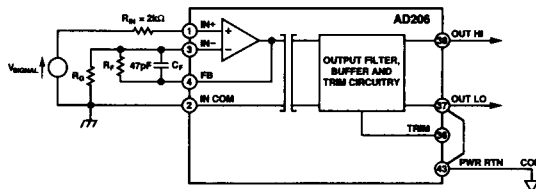

Figure 12. Noninverting Input Configuration for a Gain
**Noninverting Input Configuration for a Gain Greater Than One ( $G > 1$ ).** When input signal levels must be amplified and isolated, Figure 12 shows how to achieve a gain greater than one while continuing to preserve a very high input impedance.